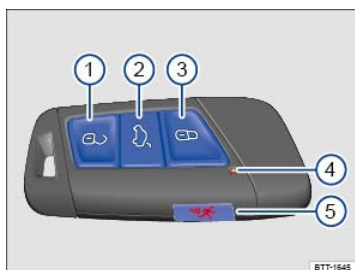
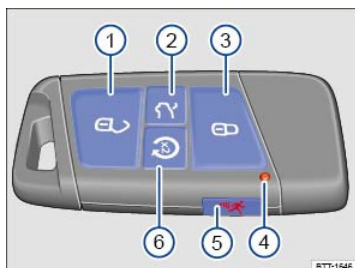

Fig. 55 Remote control vehicle key: Vehicles without Remote Start.
Fig. 56 Remote control vehicle key: Vehicles with Remote Start.
Key to ⇒ Fig. 55 and ⇒ Fig. 56 :
Depending on equipment, pressing the  button ⇒ Fig. 56⑥ two times after pressing the  button ⇒ Fig. 56③ activates the remote start feature if certain requirements are met ⇒ Remote start feature .